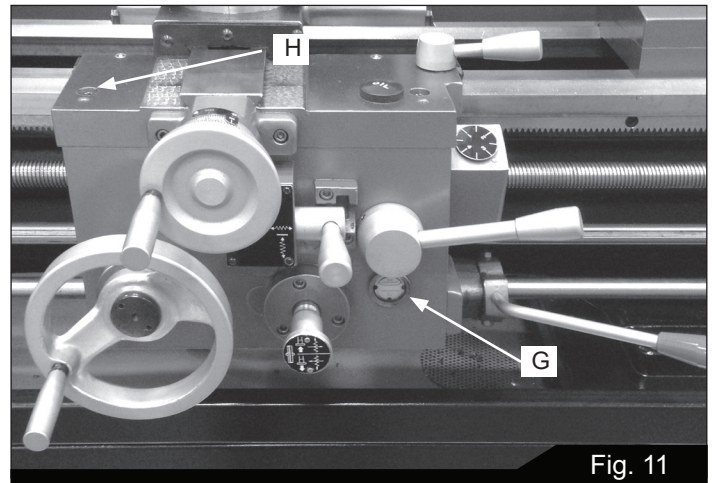

Fig. 11
4. Apron – Oil must be between indicator marks in the oil sight glass (G, Figure 11). Top off with SAE 20W oil. Unscrew oil plug (H, Figure 11) to fill. To drain, remove drain plug on the underside of apron. Drain oil completely and refill after the first three months of operation. Then, change oil in the apron annually.